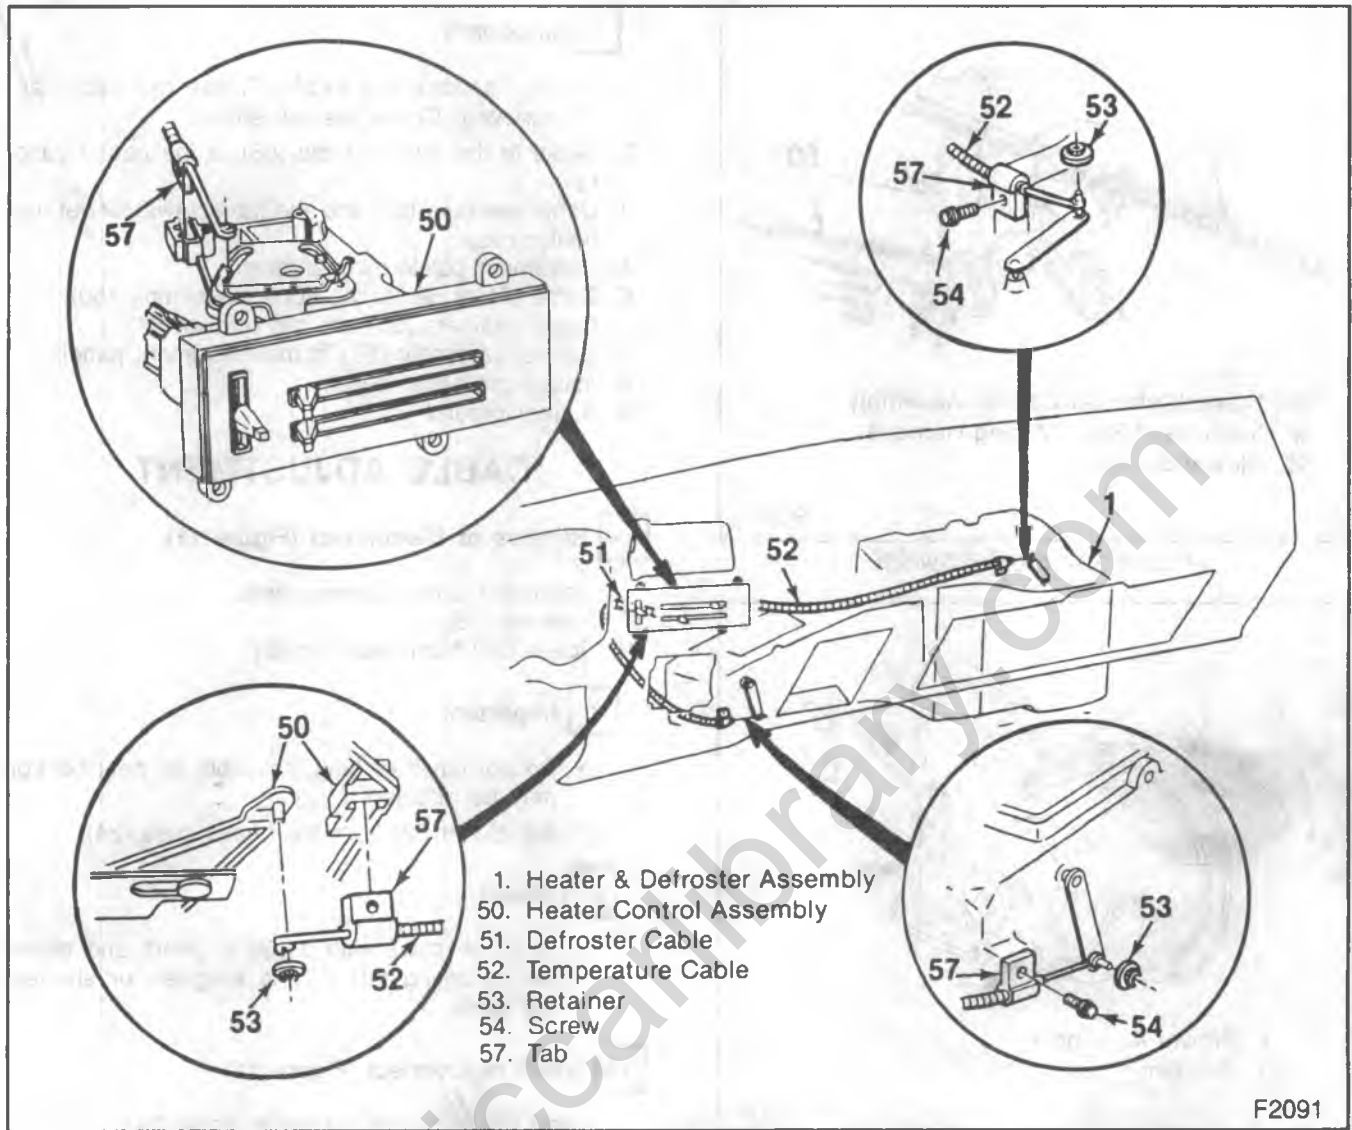

Figure 11 — Control Assembly and Cables
5. Defroster (51) and temperature cables (52) (figure 11).
↔ Remove or Disconnect (Figure 11)
↔ Install or Connect (Figure 11)